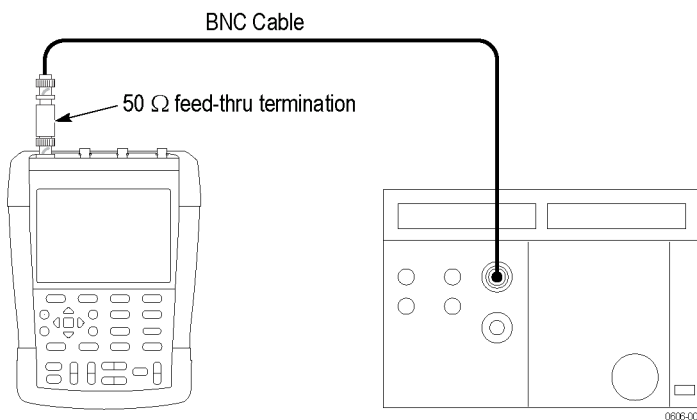

Figure 5: Time base test setup
1. Connect the test setup as shown. (See Figure 5.)
1. Connect the test setup as shown in the previous test. (See Figure 5 on page 13.)
1. Connect the test setup as shown. (See Figure 5 on page 13.)